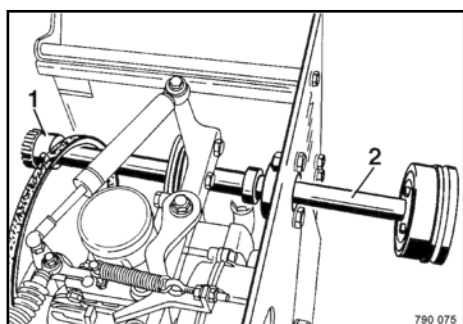

Fig. 58
Pull drive shaft (2) ↪ Fig. 58 out of the flanged coupling, so that the old V-belt can be lifted over the drive shaft.